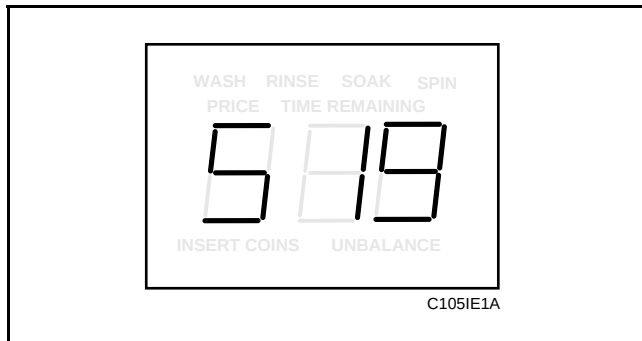

Figure 52
2. While pressing and holding the PERM PRESS keypad with one hand, press the COLD keypad with the other hand. Programmable option number one, “Slg”, will appear in the VFD. See **Figure 52**.